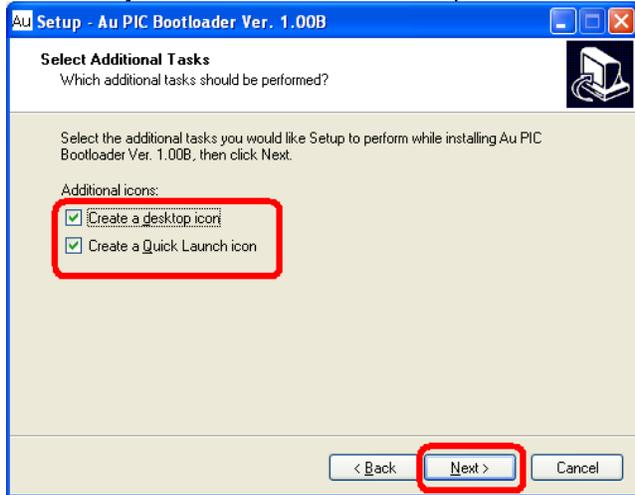

Figure B-6
- 6. "Select Additional Task" window shows up, check both "Create a desktop icon" and "Create a quick launch icon", and then click "next" to continue (Figure B-6).